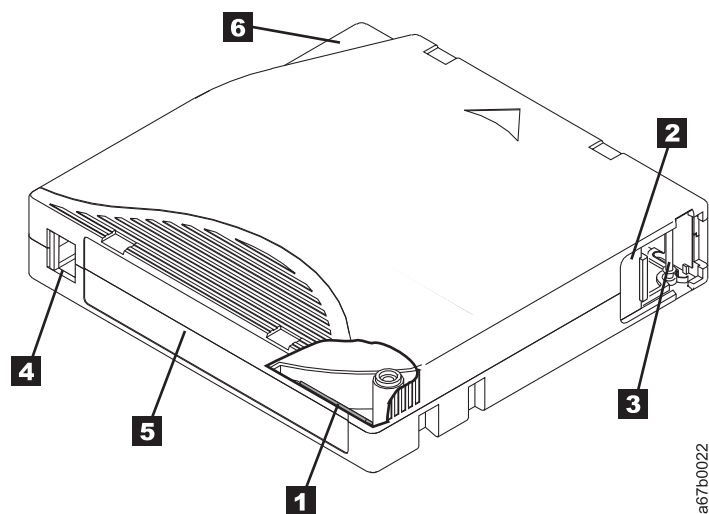

Figure 4-1. The IBM LTO Ultrium 1500 GB Data Cartridge
Figure 4-1 shows the IBM LTO Ultrium 1500 GB Data Cartridge and its components.
All generations of the IBM LTO Ultrium Data Cartridges include a Linear Tape-Open Cartridge Memory (LTO-CM) chip (**1** in Figure 4-1 on page 4-1), that contains information about the cartridge and the tape (such as the name of the manufacturer that created the tape), as well as statistical information about the cartridge's use. The LTO-CM enhances the efficiency of the cartridge. For example, the LTO-CM stores the end-of-data location which, when the next time this cartridge is inserted and the Write command is issued, enables the drive to quickly locate the recording area and begin recording. The LTO-CM also aids in determining the reliability of the cartridge by storing data about its age, how many times it has been loaded, and how many errors it has accumulated. Whenever a tape cartridge is unloaded, the tape drive writes any pertinent information to the cartridge memory.
When attaching a bar code label to a tape cartridge, place the label only in the recessed label area (see **5** in Figure 4-1 on page 4-1). A label that extends outside of the recessed area can cause loading problems in the drive.
- Position the label within the recessed label area (see **5** in Figure 4-1 on page 4-1).